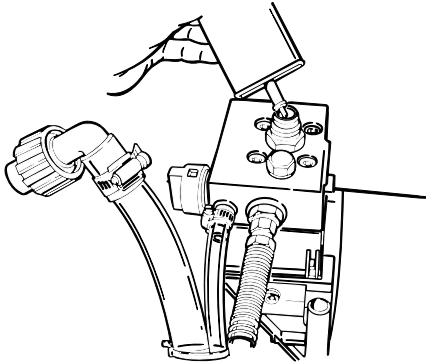

Figure 43 - Fill Inlet Valve With Oil
22. Lay unit back on handle so inlet valve is facing upward. Clean threads of inlet valve with a damp cloth. Fill inlet valve with light household oil. See Figure 43. Slowly increase pressure to distribute the oil through the pump. Turn Prime/Spray Knob from prime **A** to spray **B** to distribute oil. Replace large suction tube to inlet valve.
NOTE: The inlet valve must be oiled after every job. This will reduce or eliminate priming problems the next time the sprayer is used. See Figure 43.